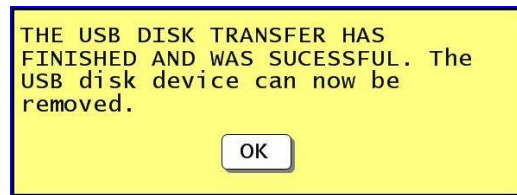

Figure 1-6. USB Transfer Complete
3. Press SAVE TO USB DISK. A message appears while the export happens. When saving is complete, another message appears, Figure 1-6